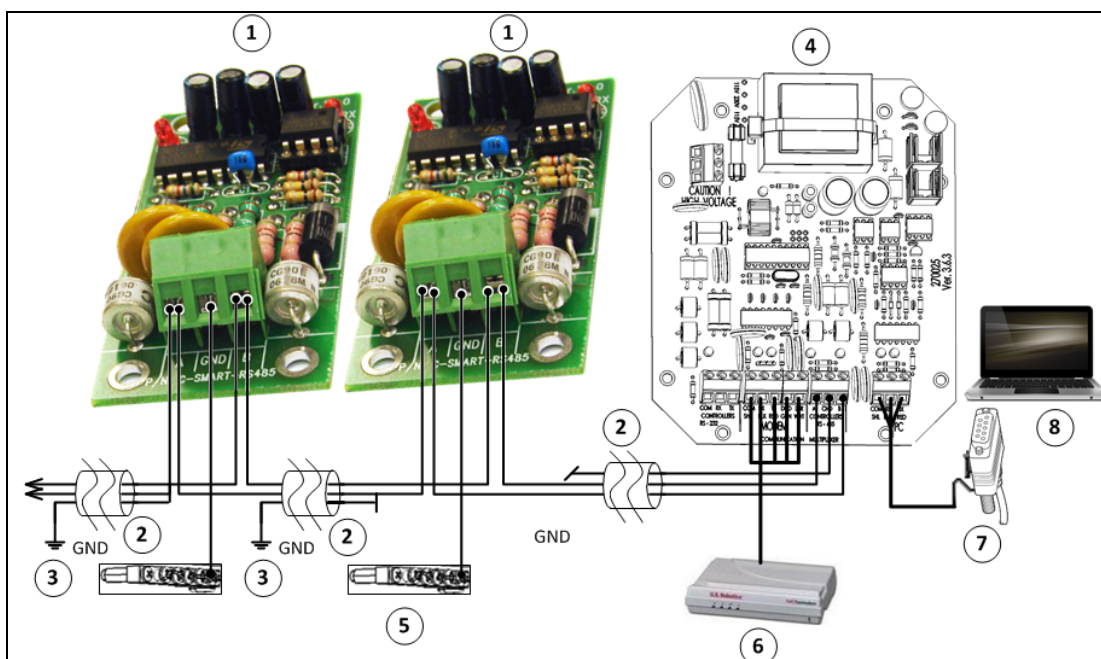

Figure 7: Smart C Communication RS-485 Wiring Diagram
- Figure 7: Smart C Communication RS-485 Wiring Diagram
Figure 7 key